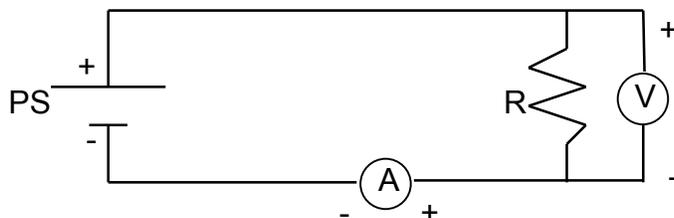

FIGURE 1
1. Connect the apparatus as shown in Fig. 1, using the 10 ohm resistor for R. Although this resistor is stamped $10\ \Omega$, it will not be exactly 10 ohms when measured. Resistors are guaranteed accurate only within a certain percent (10% in this case) which is usually indicated on the resistor in some way. The power supply (PS) has a control so that by rotating it the voltage across the resistor (and hence the current through the resistor) can be varied from zero to some maximum value.